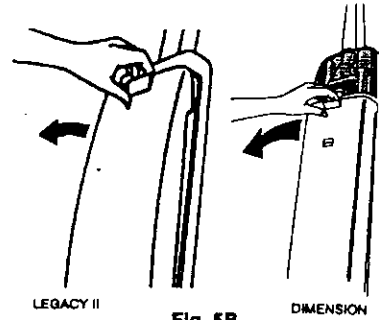

Fig. 5B
a. Pull bag door latch forward and remove door from cleaner (Fig. 5B).